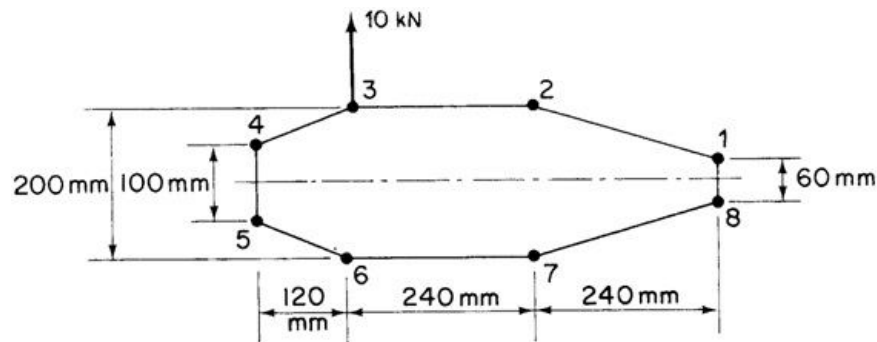

Fig.4
4. The thin-walled single cell beam shown in Fig.4 has been idealized into a combination of direct stress carrying booms and shear stress only carrying walls. If the section supports a vertical shear load of 10 kN acting in a vertical plane through booms 3 and 6, calculate the distribution of shear flow around the section. Boom areas: $B_1=B_8=200 \text{ mm}^2$, $B_2=B_7=250 \text{ mm}^2$, $B_3=B_6=400 \text{ mm}^2$, $B_4=B_5=100 \text{ mm}^2$.